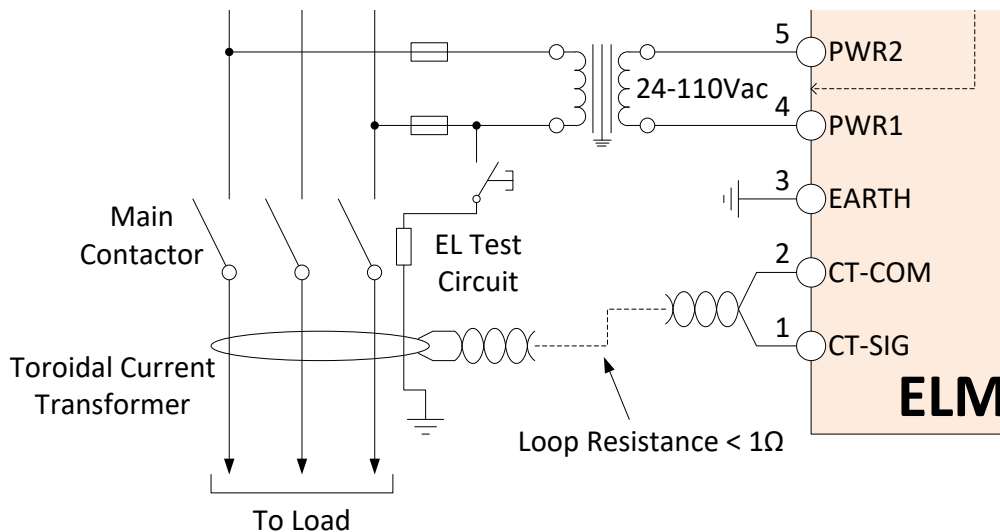

Figure 5.1: Earth Leakage Test Circuit
Inject a test current at 120% of the trip level setting through the toroid, as shown in Figure 5.1. Verify that the ELM V2 relay trips as expected.
- Inject a test current at 120% of the trip level setting through the toroid, as shown in Figure 5.1. Verify that the relay trips as expected.